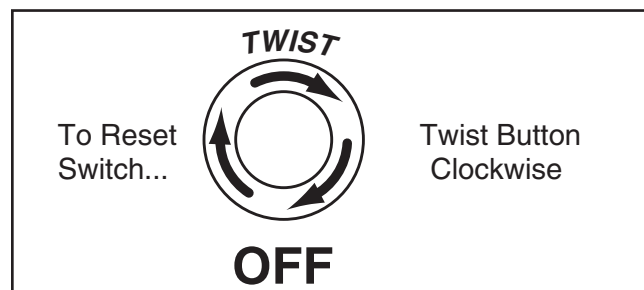

Figure 15. Resetting the Emergency Stop button.
7. There are two emergency stop buttons—on the front control panel and below the punching station on the left of the machine. One at a time, push the buttons in, then twist them clockwise so they pop out (see **Figure 15**). When both buttons pop out, the switches are reset and ready for operation.